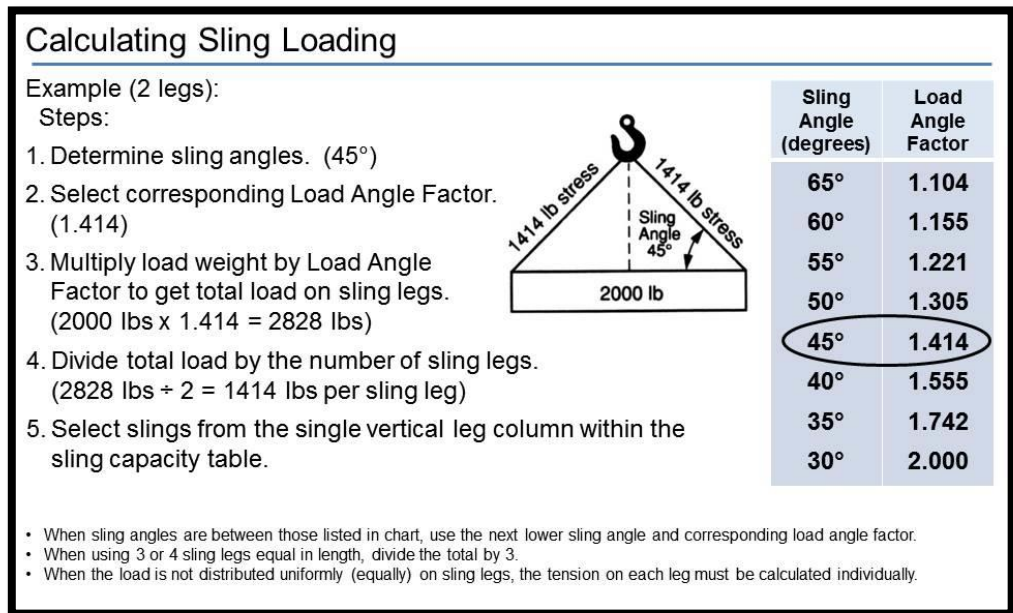

Figure 1 Calculating Sling Loading
1. When using multiple slings to lift a load, the sling angle increases the tension on the sling or attachment. Use the Load Angle Factor (Figure 1) to calculate the tension on the slings. Larger slings or attachments may be required to withstand the increased load.